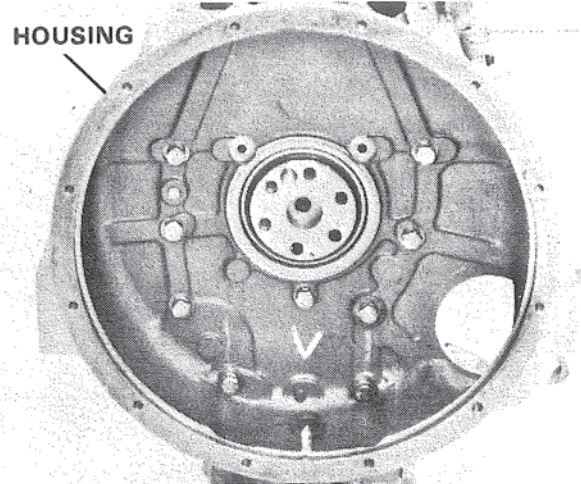

Figure 54. Installing Flywheel Housing.
16. Install flywheel housing using a new O-ring and rear oil seal. Figure 54.